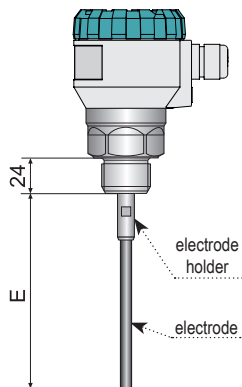
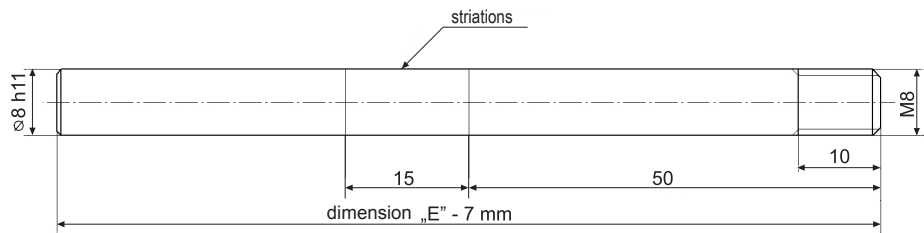

Fig. 25: Drawing of the level meter with size "E"
Fig. 26: The drawing of the measuring electrode marked with the threaded connection and grooving
1. Create your own electrode as shown on Fig. 26. The length of the electrode must be about 7 mm shorter than the dimension "E" in figure 25. The material of the electrode is recommended to be used stainless steel type 1.4571 (AISI 316 Ti) or similar depending on the application.
3. Apply the glue for securing of threaded fasteners (glue quantity specified by the manufacturer) to the thread of the new electrode (made acc. Fig. 26.). The used glue must meet the requirements depend on the specific application, for example: withstanding high temperatures, corrosive chemicals, resp. contact with food.